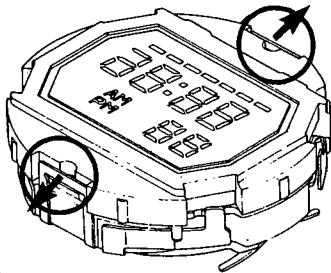

Fig. 1
- The LC display panel supporter is hooked and fixed at two areas of a supporter for plate complete (II).
As illustrated in Fig. 1, the supporter for plate complete (II) is unset by using a tweezers or the like to pry the supporter toward the arrow marks from the side of the LC display panel.